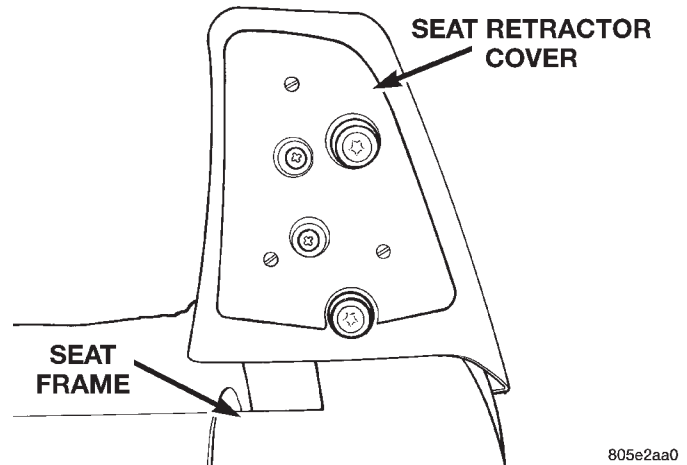

Fig. 54 Seat Belt Retractor Cover
- (4) Remove seat back cover to gain access to seat belt retractor. Refer to procedure found in this section.
- (5) Remove seat belt retractor cover (Fig. 54).
- (6) Remove and discard bolts holding seat belt retractor to seat frame.
- (4) Install seat belt retractor cover (Fig. 54).
- (5) Install seat cover. Refer to procedure found in this section.
- (6) Attach lower seat belt anchor to bolt on seat adjuster.